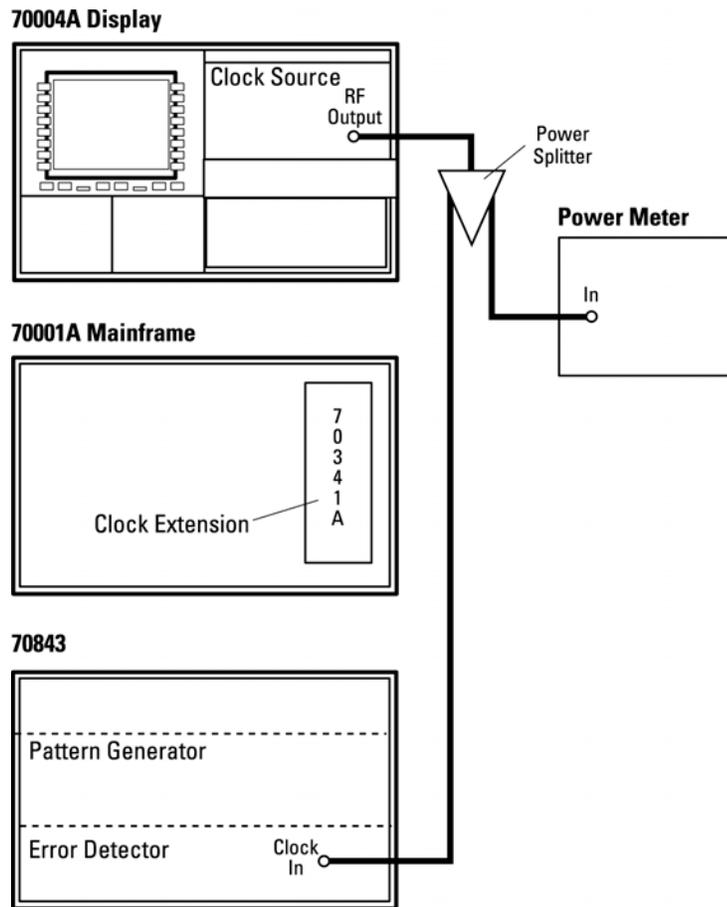

Figure 11-13
1. Connect the clock source RF output to the error detector CLOCK INPUT port and to the power meter via a power splitter as shown in Figure 11-13.
This test only applies to HP 71612 option UHF systems. With the equipment connected as shown in Figure 11-13, press **INST PRESET** on the HP 70004A display.
1. Connect the equipment as shown in Figure 11-13 on page 11-25.